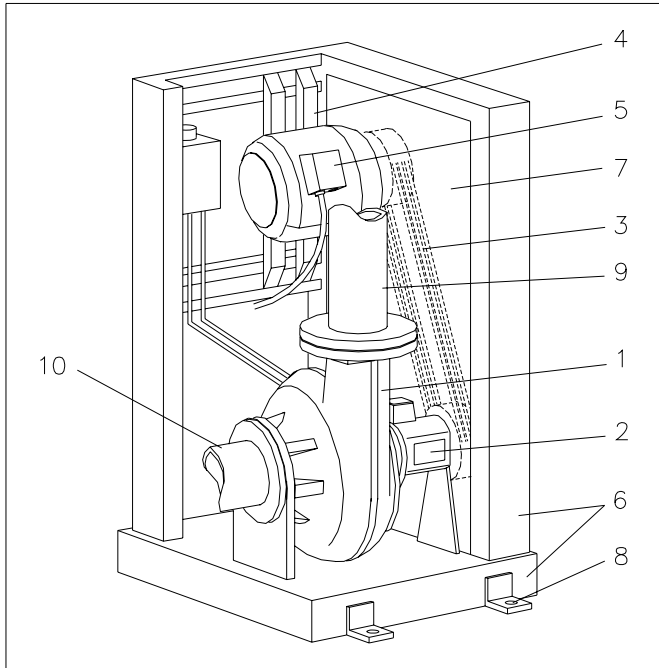

Fig. 7.7
See fig. 7.7.
- fixation of the baseplate to the floor, see fig. 7.7 pos. 8.